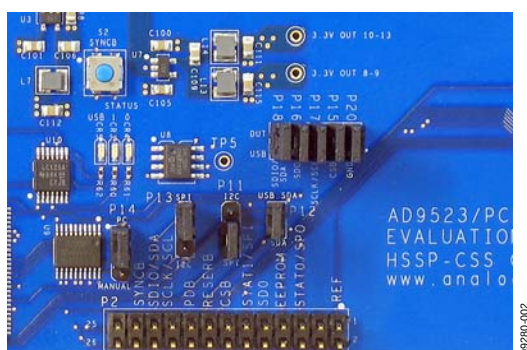
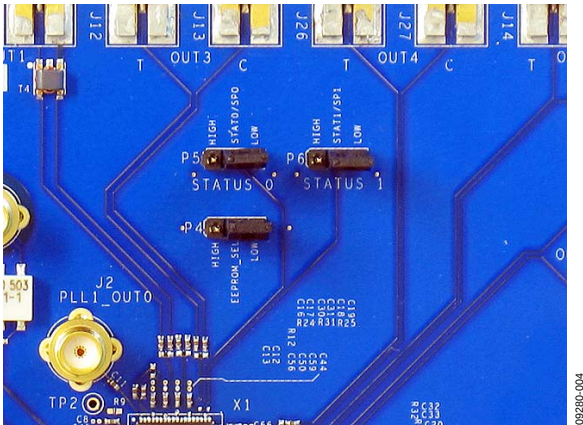

Figure 2. USB and SPI Jumper Connections
Figure 3. I²C Address Jumper Setting
The evaluation board is configured for proper PC control and operation. If the jumpers are inadvertently moved, use Figure 2 and Figure 3 to reconfigure the board.
2. Set Jumpers P11 and P13 to the **I2C** position (see Figure 2).
3. Select the desired I²C address using Jumpers P5 and P6 (see Figure 3). Note that setting P5 and P6 low is reserved for SPI mode.